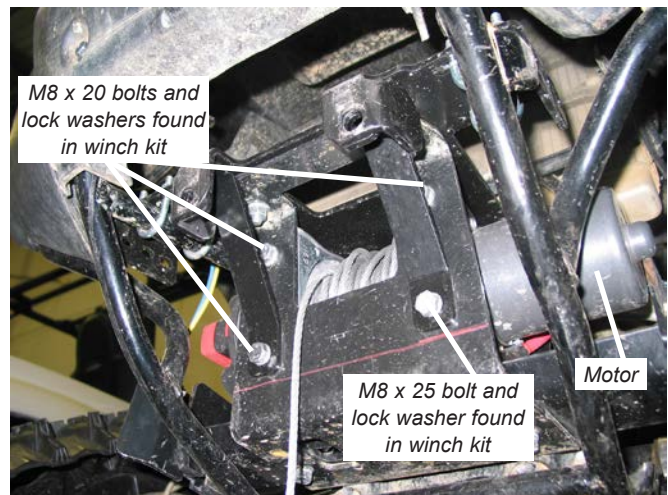

Figure 6 Attach Winch
9. Using only the top two bolt holes, mount a WARN winch to the lower mounting bracket (A2) with 5/16" dia. bolts and lock washers supplied with the winch. Attach the angle brace brackets (A3) using the lower winch holes, M8 x 20MM and 25MM bolts and lock washers supplied with the winch. See figure 6. The feet of the winch are mounted forward with the motor facing the left side of the vehicle. Tighten the bolts to a recommended torque of 12 ft-lb (17 N-m).